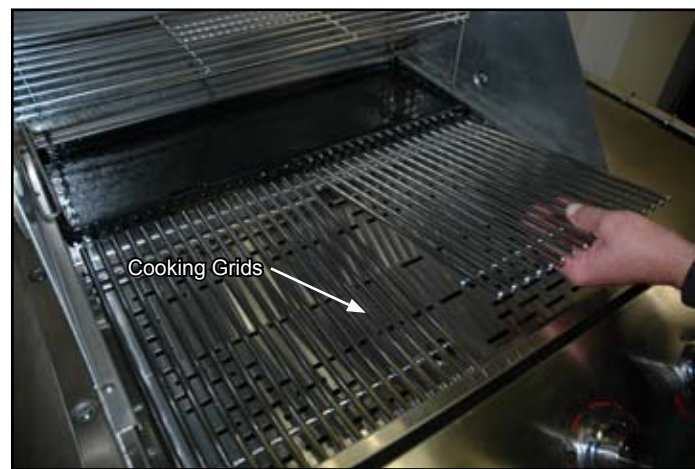

Figure 16
2. Slide the cooking grids into the grill compartment. The back edges will rest on the fixed cross member and the front edges on the front ledge in the compartment. See Figure 16.